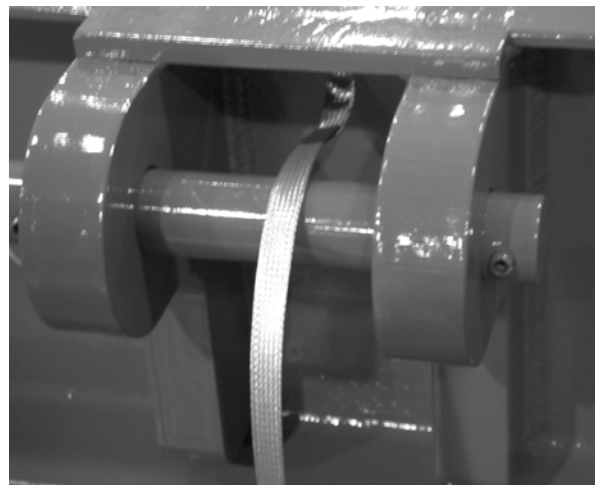

Figure 7-2. Inter-module Ground Strap
1. Park the cart as close as possible to side 1 being trimmed with the wheels centered over the end load cell mount (Number 1 in Figure 7-2). Record the indicator reading. Remember that the scale is still uncalibrated, so the indicator readings are simply raw counts rather than weight units.